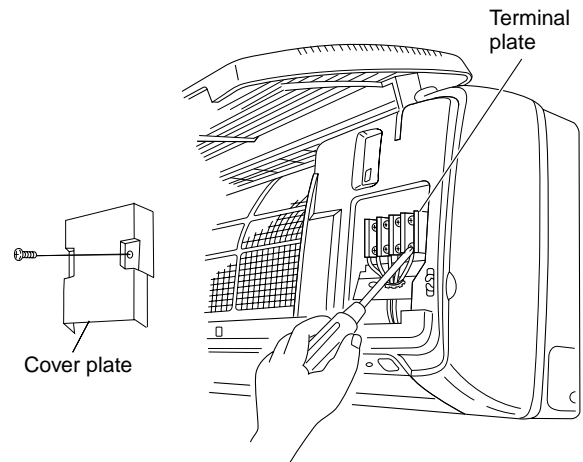

Fig. 20a
- (2) Route the inter-unit wiring from the back of the indoor unit and pull it toward the front for connection. (Fig. 20a, 20b)
- (3) Connect the inter-unit wiring to the corresponding terminals on the terminal plate (Fig. 20a, 20b) while referring to the wiring diagram.
- (4) Be sure to secure the wiring with the provided clamp.
- (1) Using a Phillips screwdriver, take out the screw on the cover plate. (Fig. 20a, 20b)
- (2) Remove the cover plate.